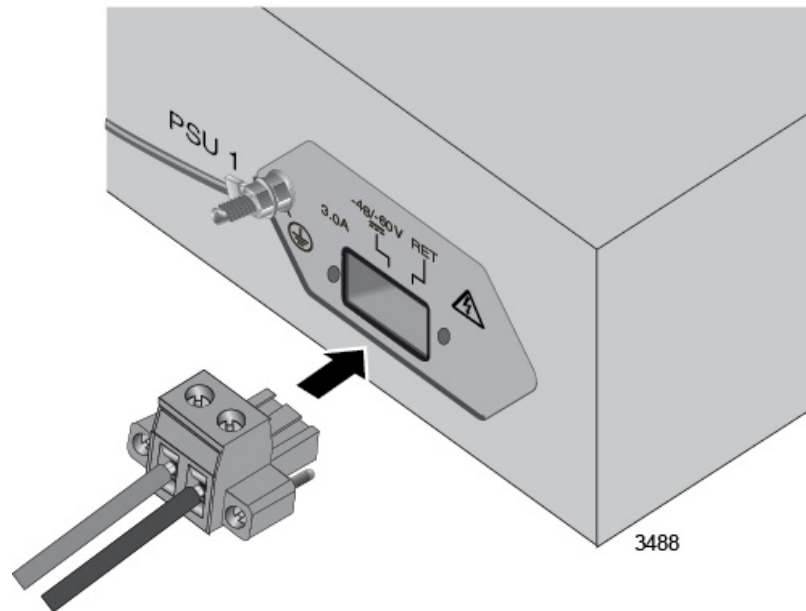

Figure 39. Sliding the DC Connector into the Switch
9. Slide the DC connector into the slot on the switch. Refer to Figure 39.